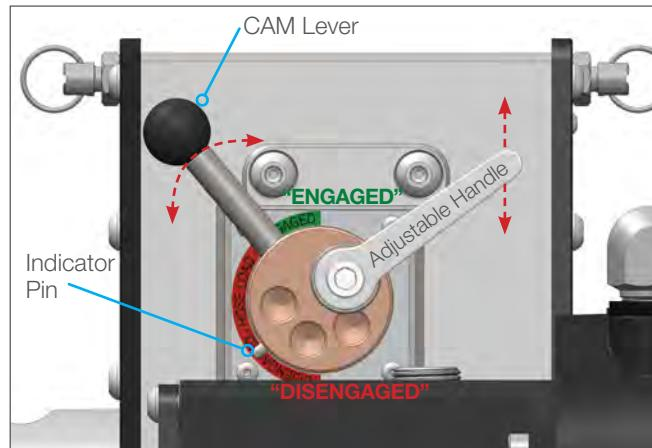

FIGURE 52
1. To load the hose, push up to release the Adjustable Handle and rotate the Cam Lever counterclockwise until the Indicator Pin is in the **“Disengaged”** position. This opens up the space between the rollers in the ABX-PRO Tractor. **(Figure 52)**
2. Rotate the Cam Lever clockwise to the **“Engaged”** position to tighten the Idler Roller down onto the hose. There should be a slow slip on the hose. If the slip is too tight or loose, move the CAM Lever off until a slow slip is obtained. Once the slip level is achieved, push down on the Adjustable Handle to secure in place. **(Figure 52)**